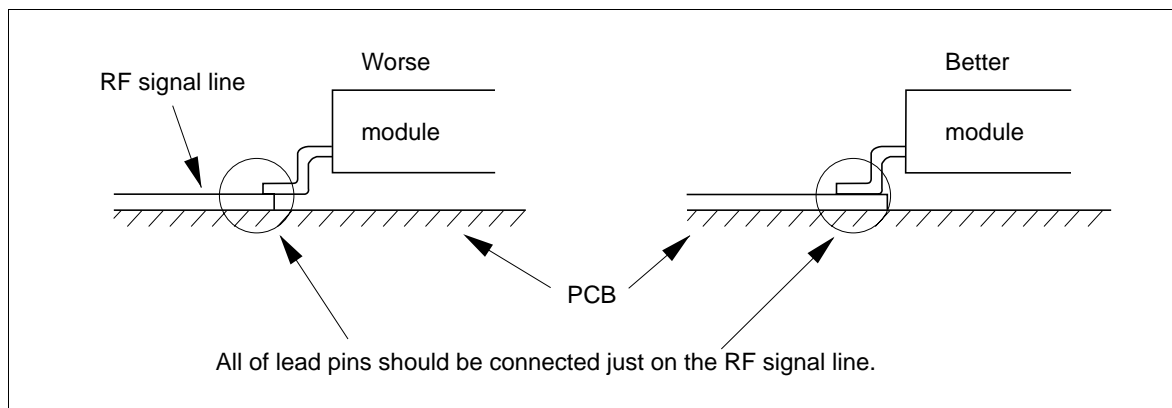

Figure 1
- To avoid the degradation of efficiency and output power, lead pins should not be floated from copper foil of PCB, and connected to right position of RF signal line (refer to figure 1)